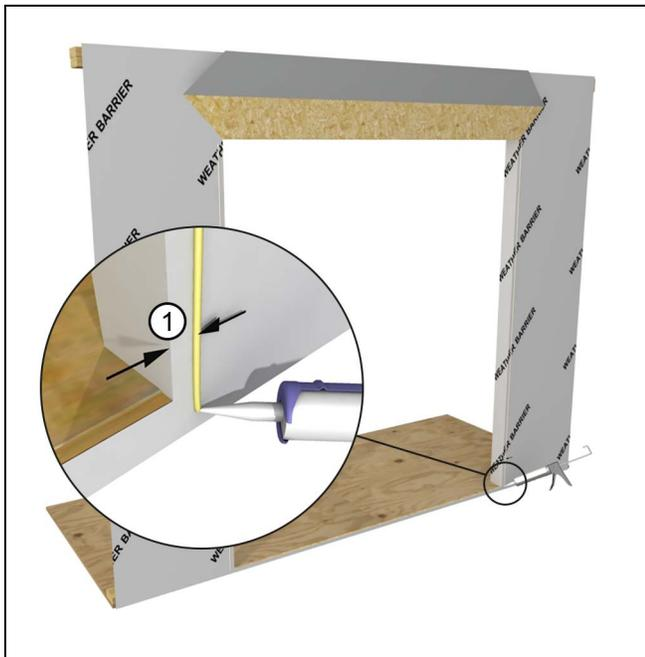

Figure 9
1. After the rough opening has been prepped (using either the air barrier or building paper methods), apply a continuous bead of sealant 3/4" (19) from the top and sides of the door opening. See Figure 9.